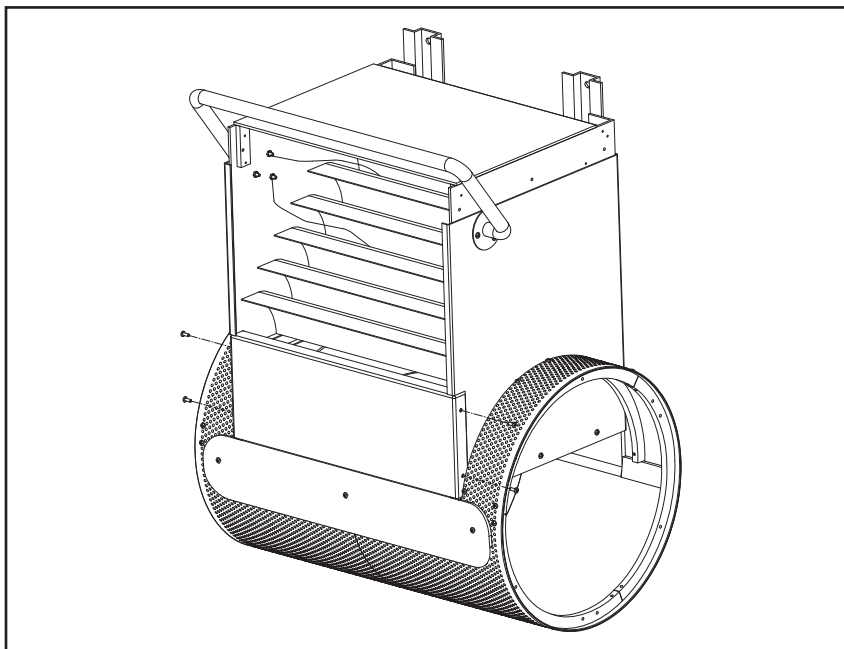

Fig. 6.9
6.11 Reattach the throat (removed in step 4) to the upper housing. Again, there will be 2 screws on either side of the throat (Fig 6.9).